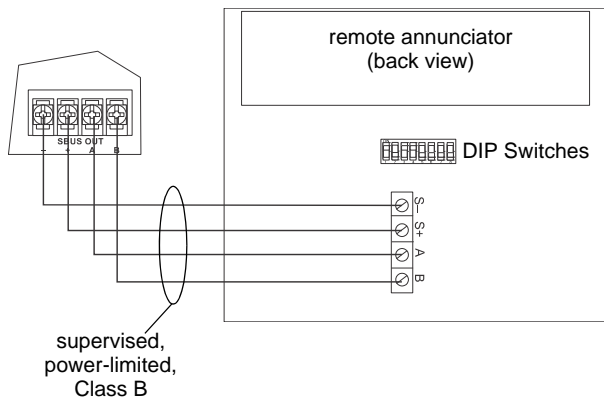

Figure 5 SBUS Connections
3. Connect the RA-2000/GRAY to the panel. See Figure 5.
3. Wire the annunciator board to the main control panel as shown in Figure 5.
7. Run wires to the control panel. Refer to Figure 5.